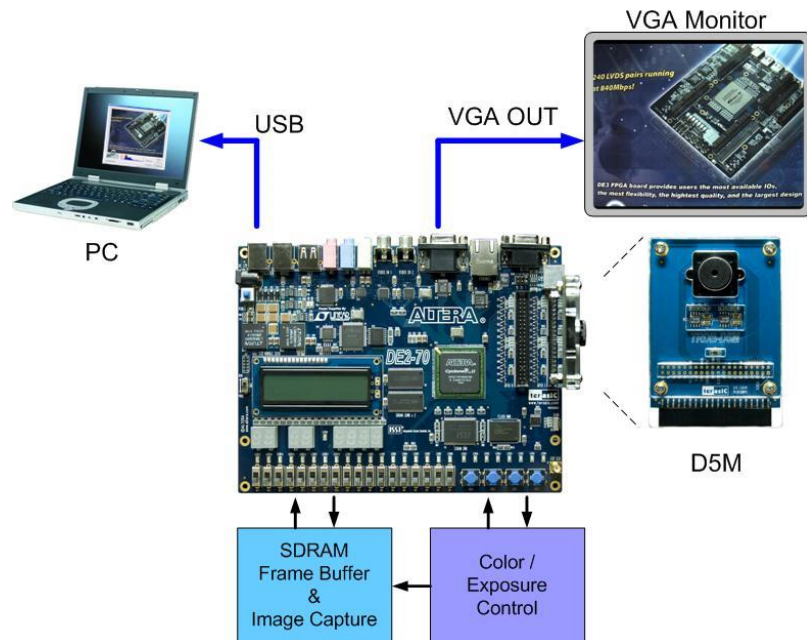

Figure 3-3 The Connection Setup for DE2-70 users
1. Ensure the connection is made correctly as shown in **Figure 3-3**. Make sure the D5M is connected to **J5 (GPIO 1)** of the DE2-70 board.